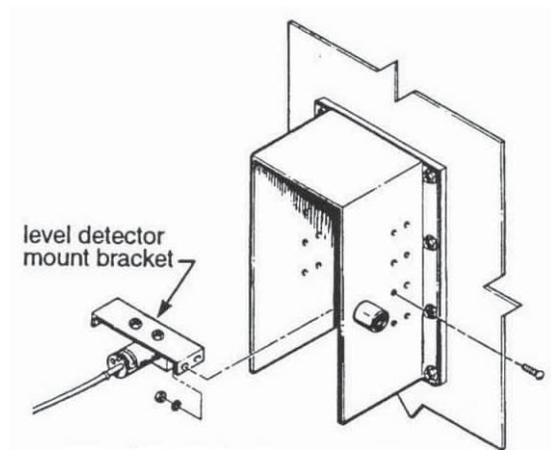

Figure 25 - Level Detector
**Level Detector Vertical Position** Check that the level detector mount bracket is installed with the mounting flanges down, to the second from the bottom row of mounting holes (Figure 25).